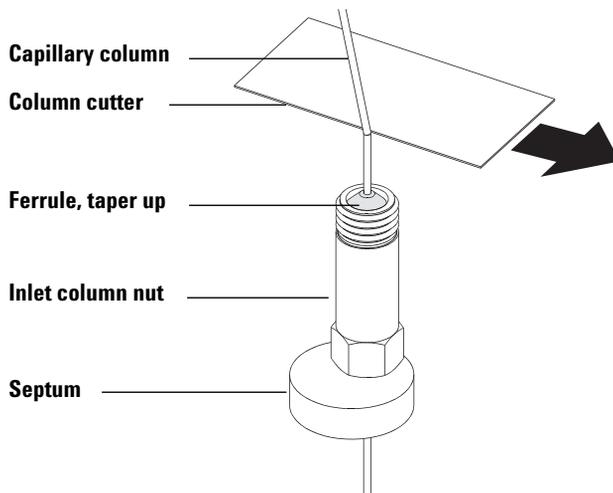

Figure 3 Preparing a capillary column for installation
- 2 Wearing clean gloves, press the column through the septum (this takes a bit of pressure). Then slide the column nut and conditioned ferrule onto the free end of the column (Figure 3). The tapered end of the ferrule should point away from the column nut.